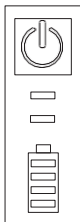

Figure 3 - SMART Series UPS Light Indication
**Note** - When the battery is not fully charged, the battery capacity indicator with increasing circle of percentage pattern, which indicates that the battery is in the process of charging. When the battery is fully charged, the battery capacity indicator shows 100%. The appearance of the UPS LEDs is shown in Figure 3.